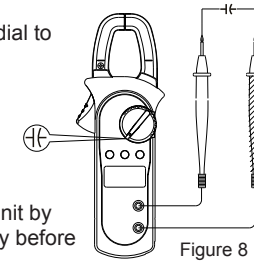

Figure 8
6. Capacitance measurement (\rightarrow) (See Figure 8)